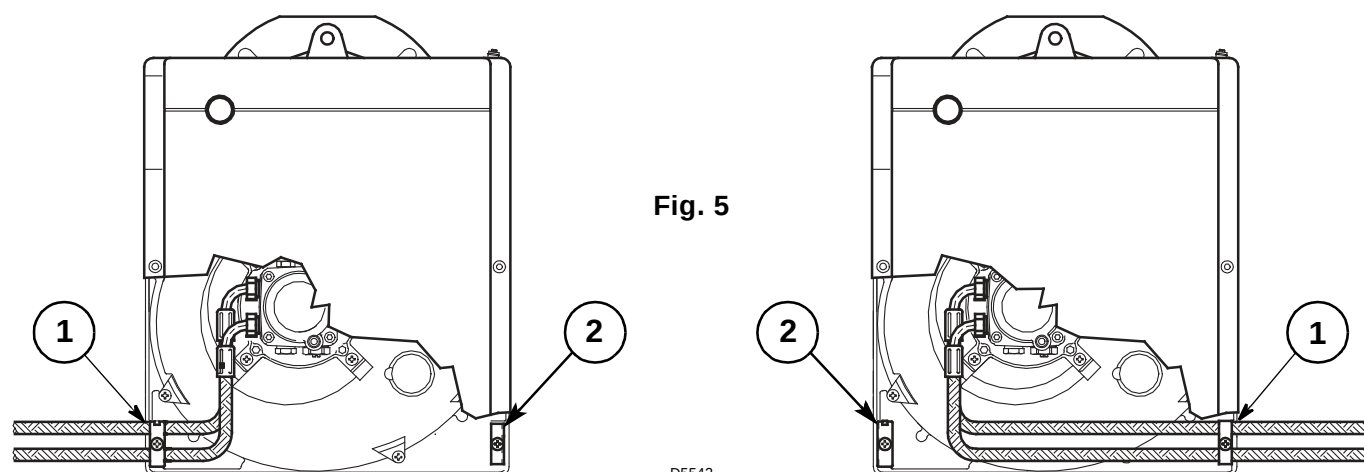

Fig. 5
Depending on the oil supply pipes position (to the right or to the left hand side of the burner) the fixing plate (1) and closing plate (2) should be reversed, (see fig. 5).